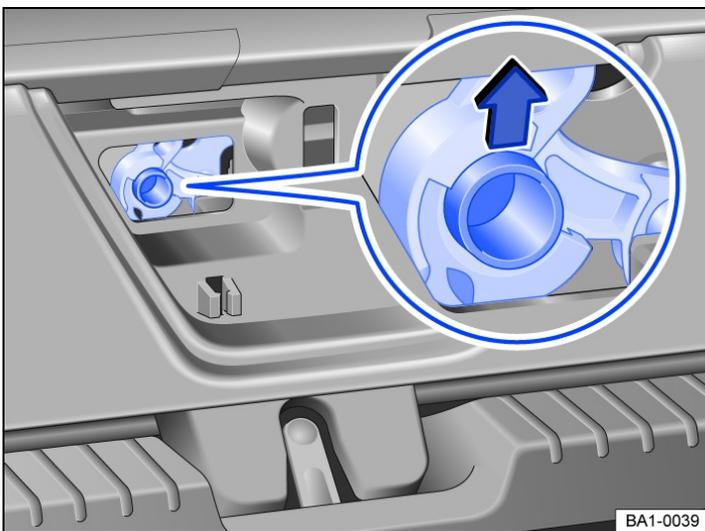

Fig. 2 In the boot lid: manual release mechanism for the boot lid.
- In the boot lid, press and hold the  button → *Fig. 2* until the hazard warning lights flash.
- Insert a suitable object into the opening of the release lever and press in the direction of the arrow → *Fig. 2* to unlock the boot lid.